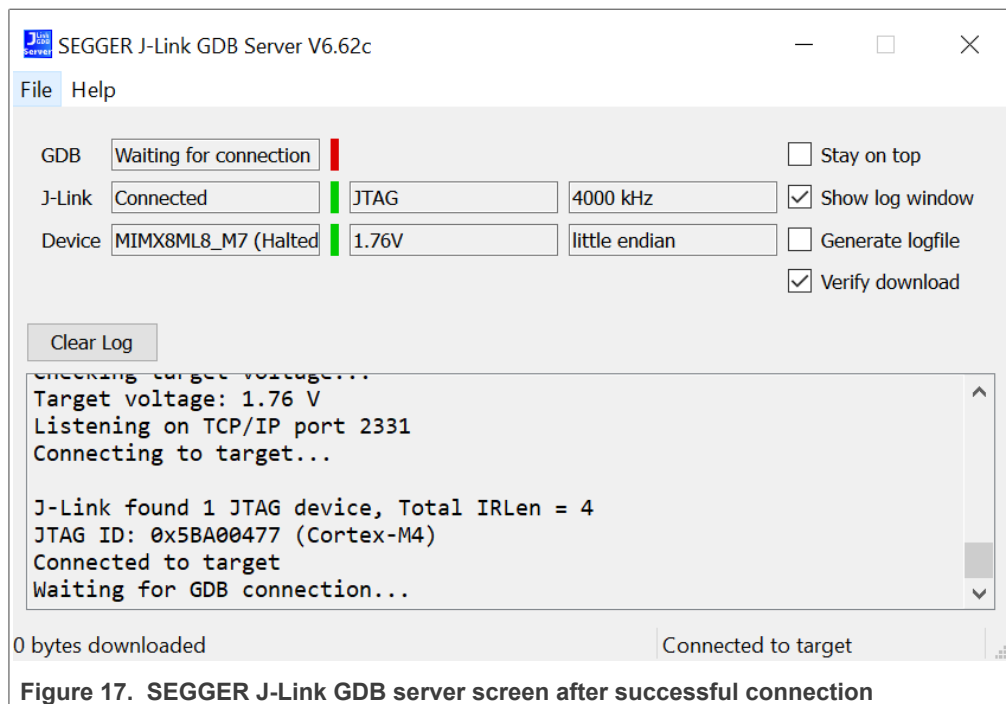

Figure 17. SEGGER J-Link GDB server screen after successful connection
5. After GDB server is running, the screen should resemble Figure 17: